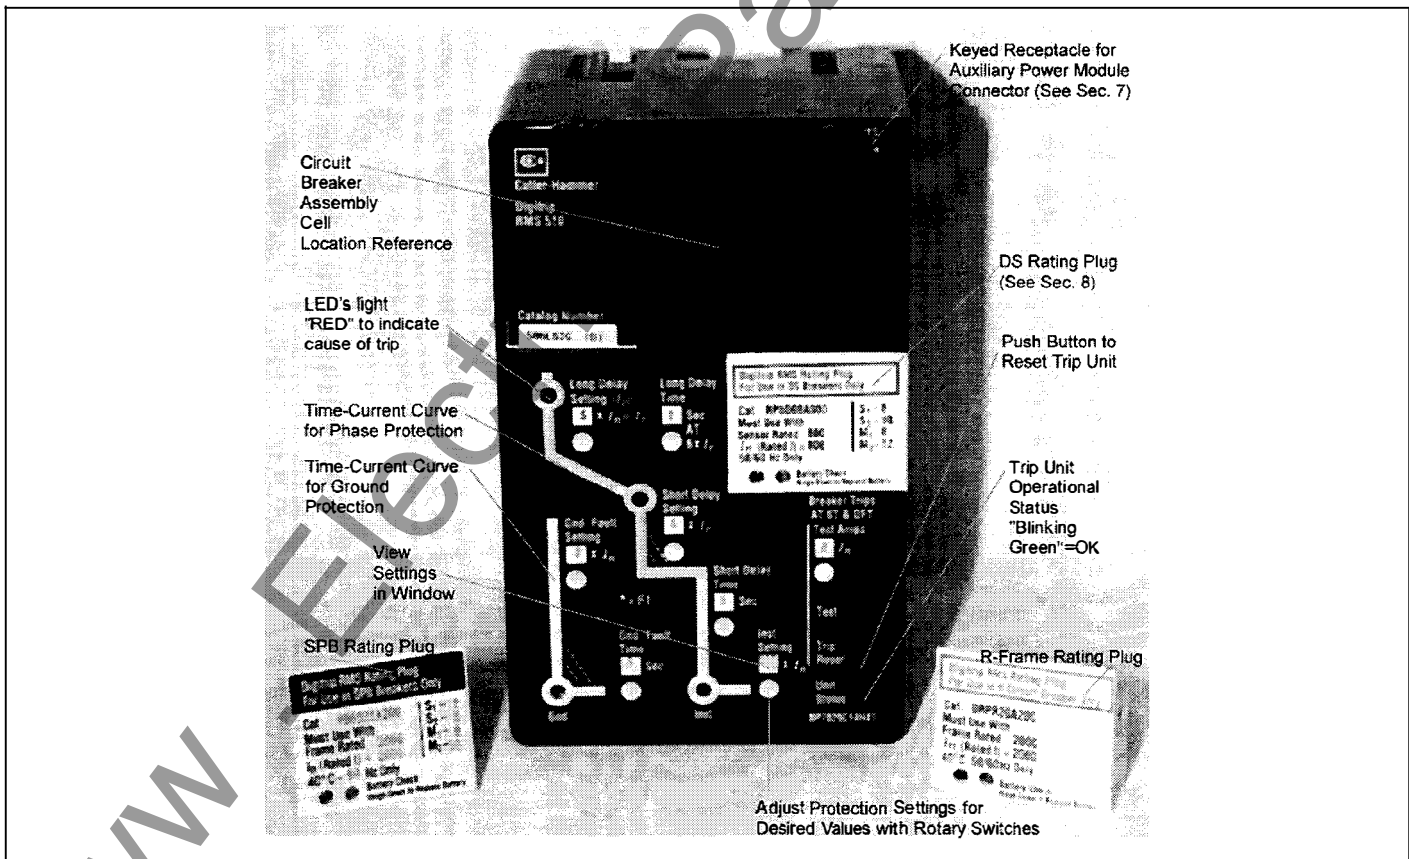
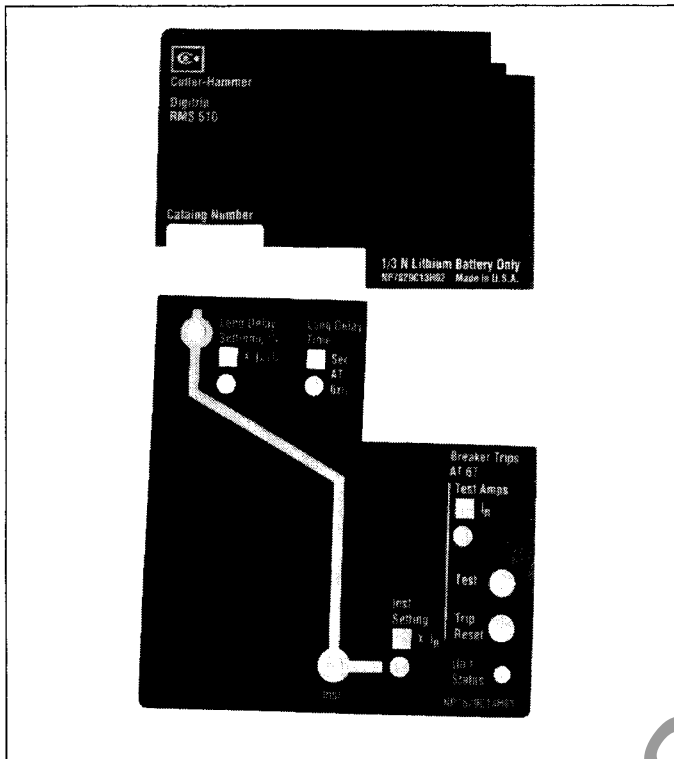
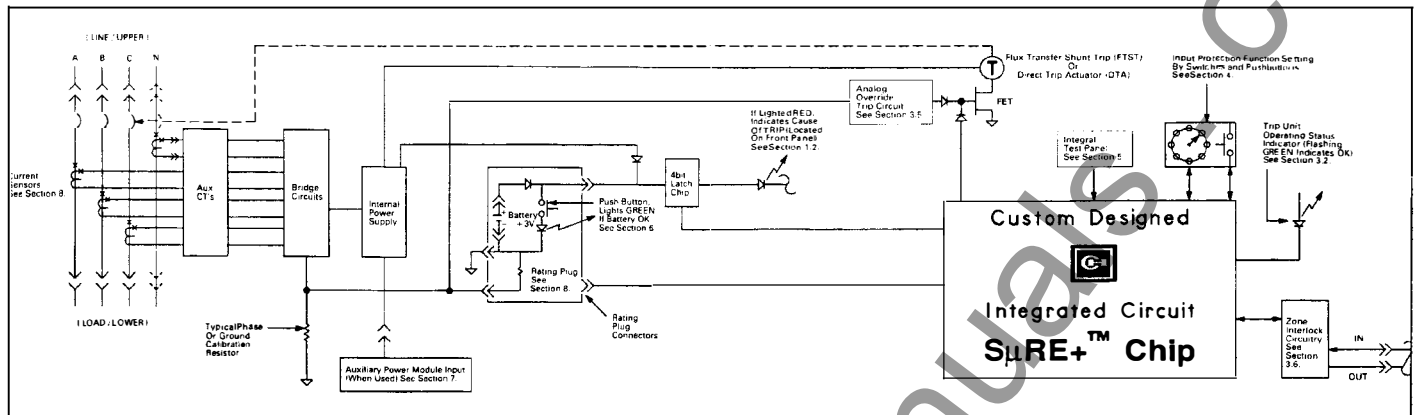
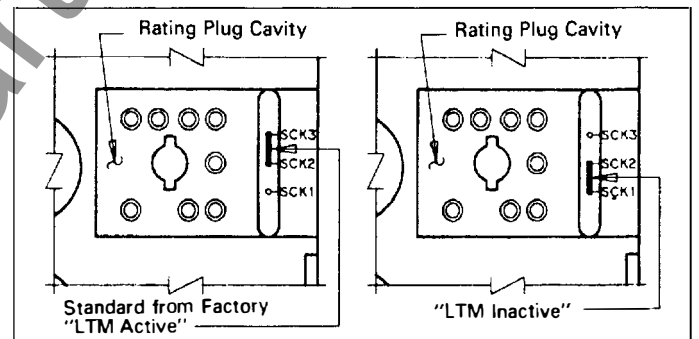

Fig. 1 Digitrip RMS 510 Trip Unit Model LSIG with Rating Plug
Fig. 2.1 Long Time/Instantaneous Protection (LI)
Fig. 3 Digitrip RMS 510 Block Diagram with Breaker Interface
Fig. 4.2.1 Long Time Memory "LTM" Jumper
The Digitrip RMS 510, illustrated in Fig. 1, is a custom application specific integrated circuit based trip unit suitable for use in types DS and DSL low voltage AC power circuit breakers and type SPB Systems Pow-R circuit breakers and Series C[®] R-Frame molded case circuit breakers.
The Digitrip RMS 510 Trip Unit is available in six different types. Each trip unit may be equipped with a maximum of five phase and two ground (time-current) adjustments to meet specific application requirements. The types of protection available for each model include the following, which are illustrated in Figures 2.1 through 2.6:
The Digitrip RMS 510 Trip unit provides three basic functions: Protection, Information and Testing. A typical trip unit and rating plug are illustrated in Fig. 1. Individual product instruction leaflets referenced in Section 9.0 illustrate typical Digitrip RMS Trip Units installed in specific breakers.
The trip unit employs the Cutler-Hammer Inc. custom designed integrated circuit S μ RE + chip, which includes a microcomputer to perform its numeric and logic functions. The principle of operation is described by the block diagram shown in Fig. 3.
The LEDs, shown in Figs. 1 and 2.1-2.6, on the face of the trip unit, light "RED" to indicate the reason for any automatic trip operation. As indicated in Figs. 2.1-2.6, each LED is strategically located in the related segment of the time-current curve depicted on the face of the trip unit. The reason for trip is identified by the segment of the time-current curve where the LED is lighted "RED". Following an automatic trip operation, the back-up battery, continues to supply power to the LEDs as indicated in Figs. 3 and 6. To check the status of the battery, see Section 6.
Push the "Trip Reset" button shown in Fig. 1, to turn "Off" the LEDs following a trip operation.
A green colored LED, as shown in Fig. 1, indicates the operational status of the trip unit. Once the load current through the circuit breaker exceeds approximately 10% of the frame/current sensor rating, the green LED will flash "On" and "Off" once each second, to indicate the trip unit is energized and operating properly.
Zone Selective Interlocking (or Zone Interlocking) is available (see Fig. 3) for Digitrip RMS Trip Units having Short Delay and/or Ground Fault protection. Zone Selective Interlocking provides the fastest possible tripping for faults within the breaker’s zone of protection, and yet also provides positive coordination among all breakers in the system (mains, ties, feeders and downstream breakers) to limit the outage to the affected part of the system only. When Zone Interlocking is enabled, a fault within the breaker’s zone of protection will cause the RMS DIGITRIP trip unit to:
Prior to placing circuit breaker in operation, each trip unit protection setting must be set to the values specified by the engineer responsible for the installation. The number of settings that must be made is determined by the protector model supplied as illustrated in Figs. 2.1 through 2.6. Each setting is made with a rotary switch, using a small screwdriver. The selected setting for each adjustment appears in its respective rectangular viewing window as illustrated in Fig. 1.
In certain applications it may be desirable to disable the LTM function. The LTM function can be disabled by (first opening the breaker and then) removing the Rating Plug (See Figures 1 and 6), and lastly moving the LTM jumper (inside the rating plug cavity, See figure 4.2.1) to its "INACTIVE" connection. (You can enable the LTM function again any time you wish by moving the LTM jumper back to its original "ACTIVE" connection.)
- 2) There is a condition under which the Long Delay Trip LED can erroneously indicate a LDT has occurred, even though the breaker is still closed. This can happen when an overload current momentarily exceeds the Long Delay Current Setting, I_r , so that the Long Delay LED flashes "RED" to indicate the overload condition. Then if, at the very moment when the LED is "ON", the load current would then suddenly drop to a value less than 10% of the breaker frame (or current sensor) rating, the trip unit stops functioning while the "4bit Latch Chip" (See Fig. 3) is set and the LED remains Lighted. If the current would again increase to a value above the Long Delay Current Setting, I_r , and then return to normal, the
LDT will reset itself. You can of course, manually clear the LDT (or any other trip indication) at any time, by pushing the "PUSH to RESET" button. (See Figure 1.)